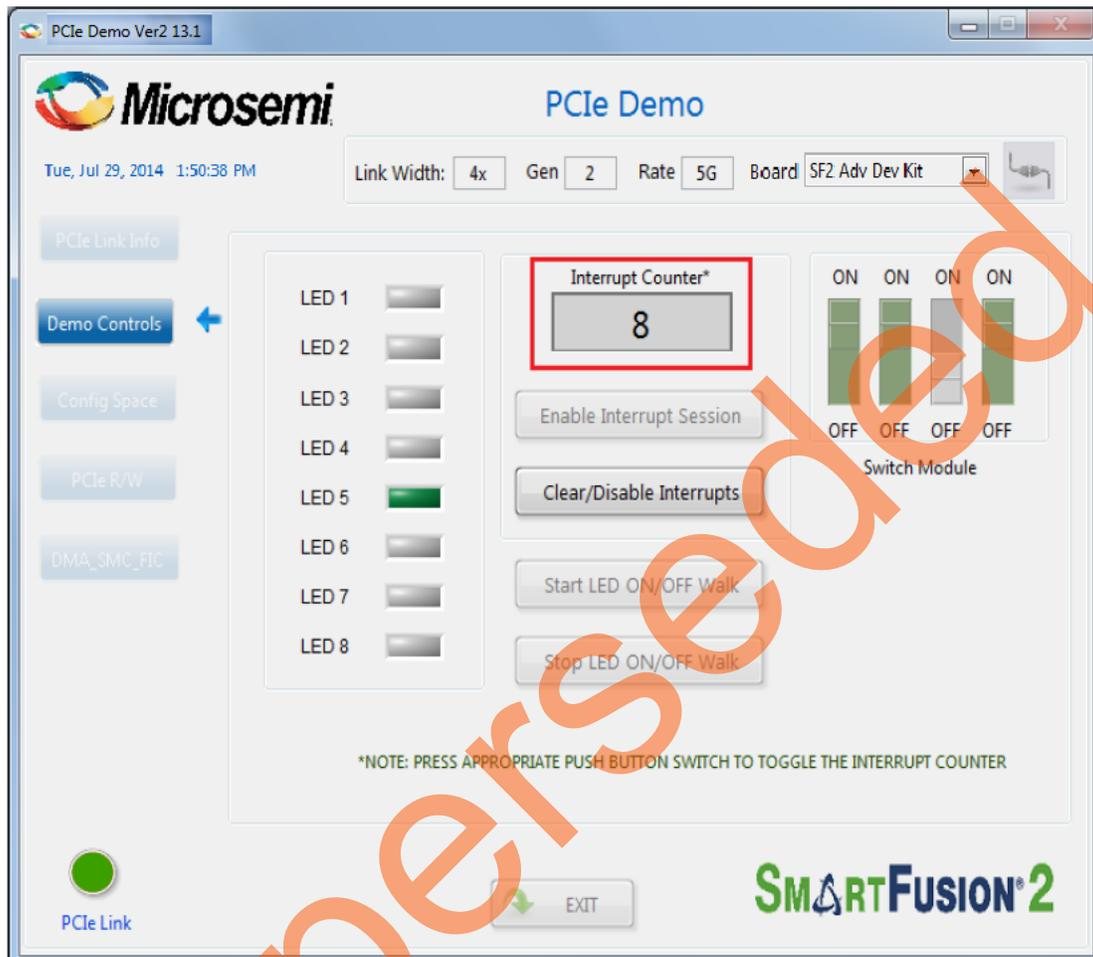

Figure 21 • Interrupt Counter Field in PCIe\_Demo Application
11. Press the push button, SW3 on the SmartFusion2 Advanced Development Kit board. Observe the interrupt count on the **Interrupt Counter** field in the PCIe\_Demo application. Figure 21 shows the **Interrupt Counter** field in PCIe\_Demo application.